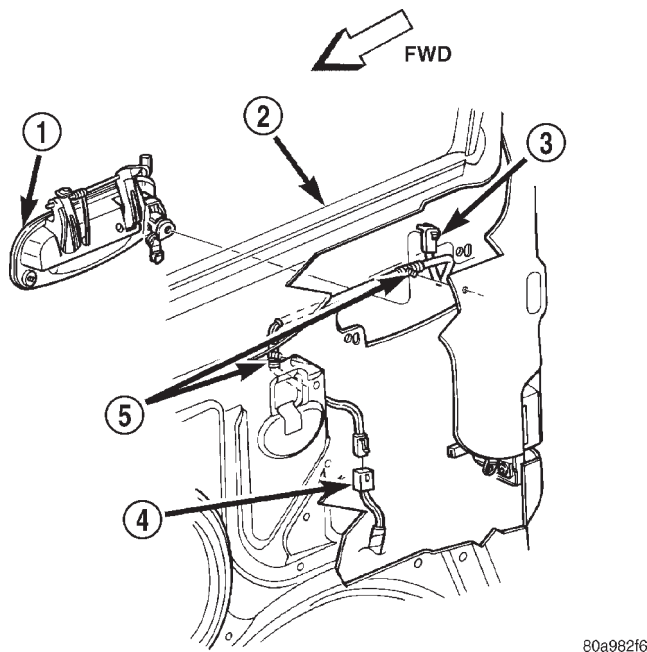

Fig. 2 Door Lock Cylinder Switch Remove/Install - Typical
(3) From the outside of the door, pull the door outside latch handle out far enough to access the door lock cylinder switch (Fig. 2).